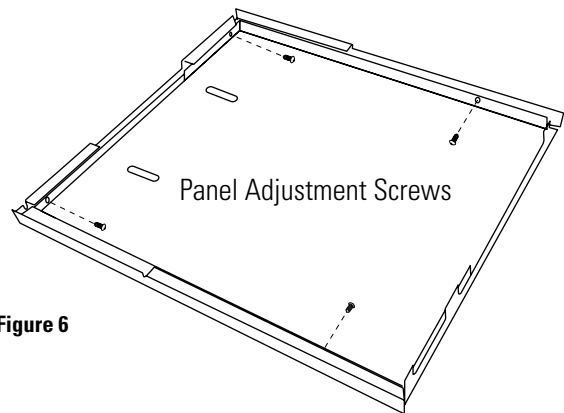

Figure 6
- Loosen one of the 4 screws that holds the steel panel to the trim (Figure 6). Press the steel panel against the custom panel and retighten the screw. Repeat this adjustment to the remaining 3 screws.